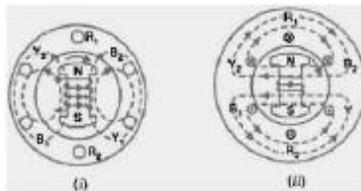

Fig 1 (c)
- Flux due to rotor current is distributed in air-gap as shown in Fig: 1 (d).